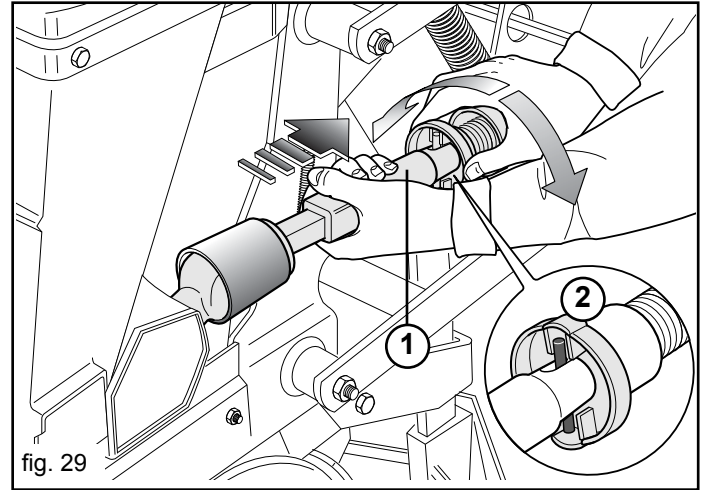

fig. 29
Disconnect the seeder drive shaft (Fig. 29) as follows:
- Push the coupling sleeve and keep it pressed (1, Fig. 29) in the direction shown by the arrow, press forward and at the same time rotate the ring nut (2, Fig. 29) until it is free of the iron pin;
- Pull the sleeve back at the end of its run (1, Fig. 29).